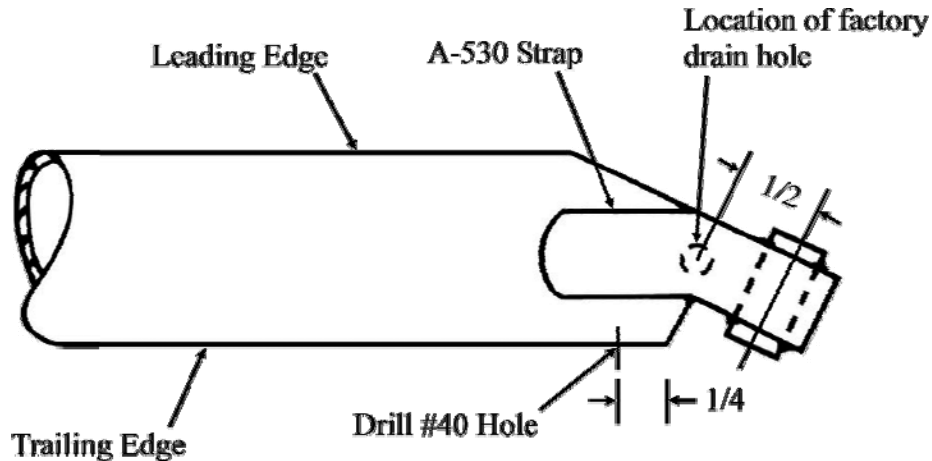

Figure 1: MLG Tie Strut Lower End with Factory Drain Hole in A-530 Strap Lower Surface or in Strut Trailing Edge
The Federal Aviation Administration (FAA) recommends you inspect your Taylorcraft airplane equipped with MLG tie strut PN B-A51 in accordance with Taylorcraft Aviation Corporation SB No. 78-001 within 30 days from receipt of this SAIB, and annually thereafter. This includes adding a drain hole in the trailing edge of the tie strut in accordance with Figure 1 of the SB if one does not already exist. We recommend you take the following actions that expand upon the SB 78-001 instructions:
- 2) Locate the factory-installed drain hole located either on in the PN A-530 strap that attaches the lower lug to the strut tube, or at the trailing edge of the tie strut (See Figure 1). In the absence of a factory-installed drain hole at either location, locate and drill a #40 drain hole in